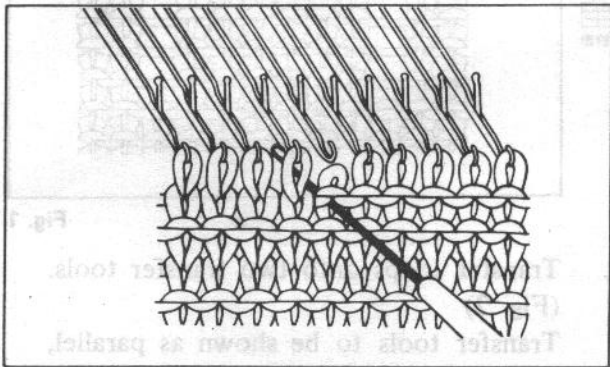

Fig. 2
4. Unhook the stitches on first row from the latch needles. (Fig. 2)